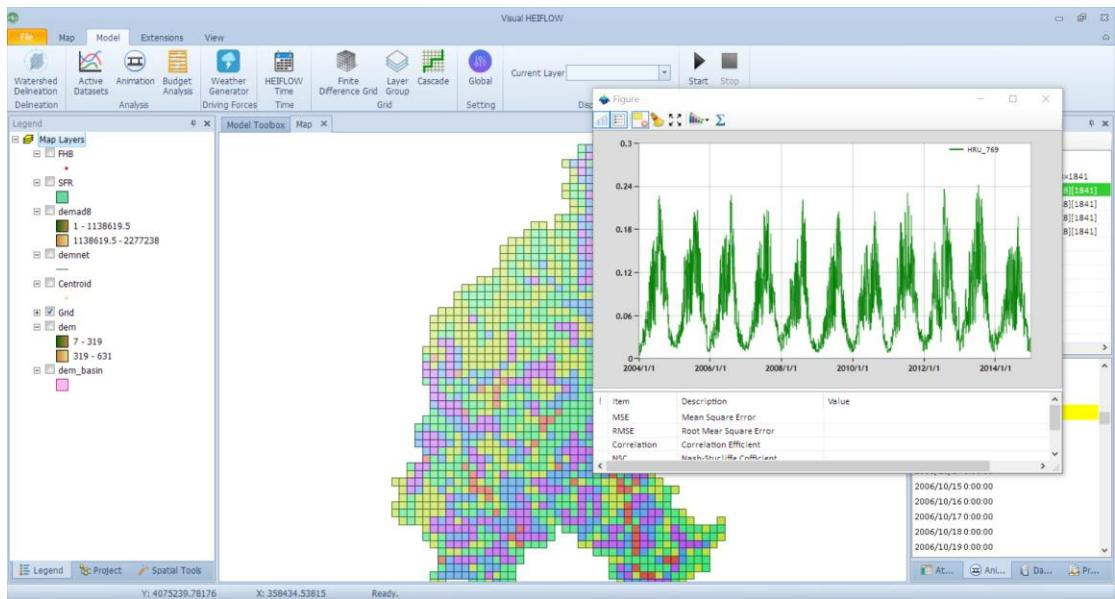

Figure 8-17. Simulate time series of actual ET at the HRU with ID 769.
- 6) Select Model -> Active Datasets in the Main Menu Bar, the cursor shape changes to cross, meanwhile the Figure dialog appears. Left click on the map, then simulated time series of actual ET is played in the Figure dialog (Figure 8-17).